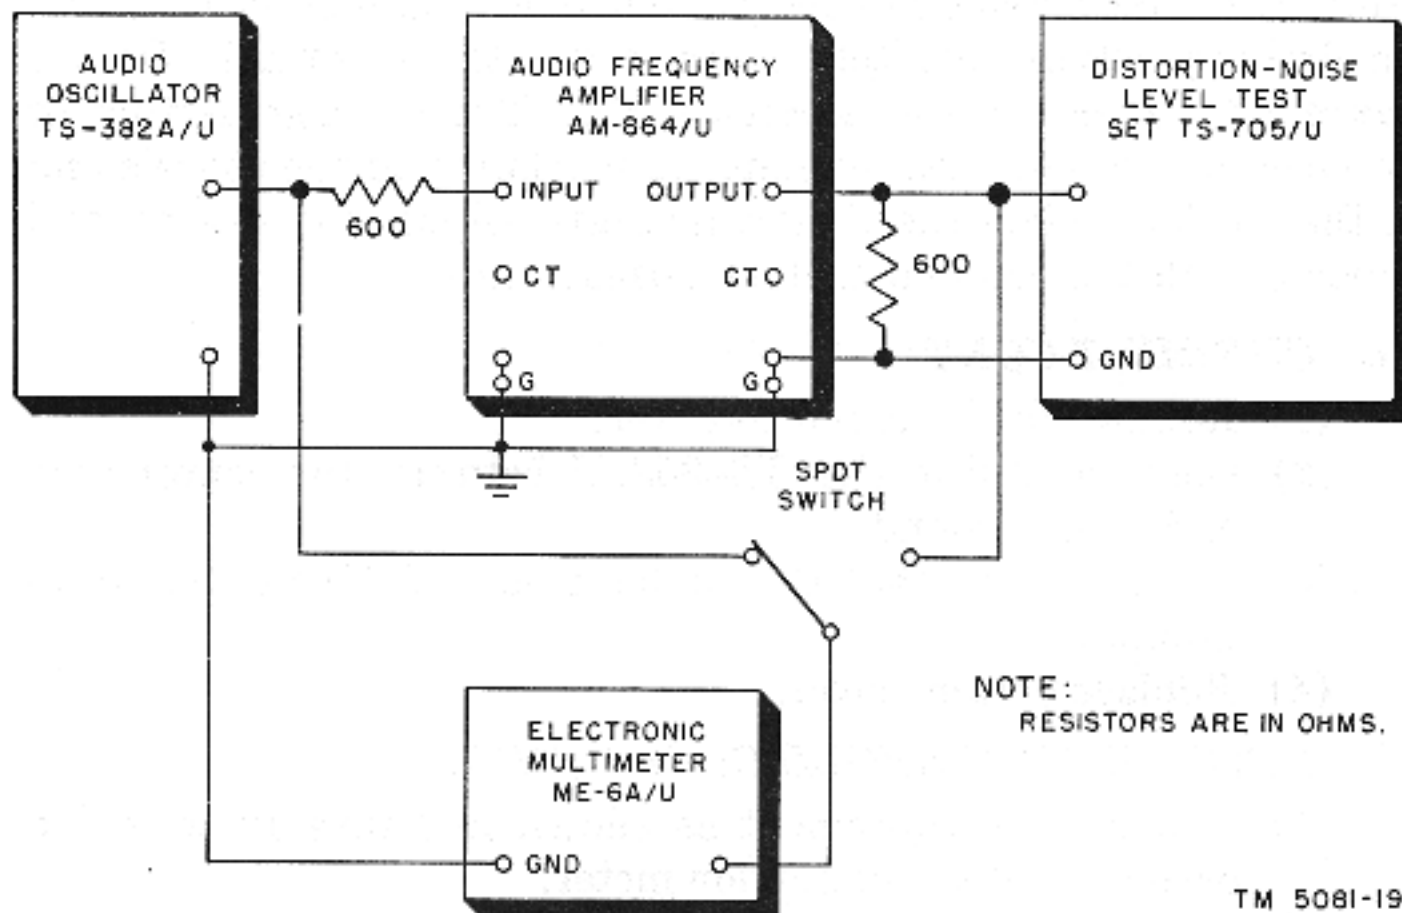

Figure 19. Final test set-up.
- (1) Connect the equipment as shown in figure 19 with the exception of the distortion meter.
- (2) Turn attenuation control R5 to its maximum clockwise position.
- (3) Turn LIMITER THRESHOLD control R10 to its maximum counterclockwise position.
- (4) Place Electronic Multimeter ME-6A/U across the output of the Audio Oscillator TS-382A/U.
- (5) Set the frequency of the audio oscillator to 1,000 cycles and the output level to .066 volt. (This oscillator output provides a -35 db input to the amplifier terminals.)
- (6) Place the electronic multimeter across the output of the amplifier, using the SPDT switch (fig. 19).
- (7) Turn LIMITER THRESHOLD control R10 slowly clockwise until the output level, as indicated on Electronic Multimeter ME-6A/U, reads 1.9 volts (0 db).
- (8) Increase the input signal to .21 volt. (This provides a -25 db input to the amplifier.) The output level of the amplifier should not be more than 2.13 volts (1-db increase over 1.9 volts).
- (9) If the output level increases more than 1 db, perform the procedures outlined in *a* above and repeat the procedures outlined in *b* (3) through (8) above.
- a. Connect the equipment as shown in figure 19 with the exception of the distortion meter.
- b. Connect the distortion meter as shown in figure 19. The distortion should not exceed 2 percent.
- a. Connect the equipment as shown in figure 19 with the exception of the audio oscillator and the distortion test set.